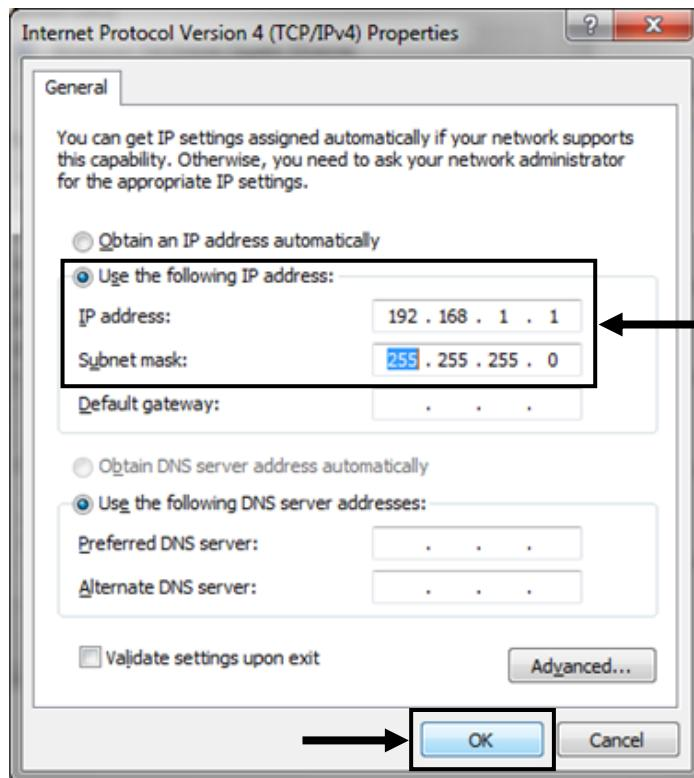

Fig 93. IP Address Fields
6. Complete the following on the “General” tab window (Fig 93):